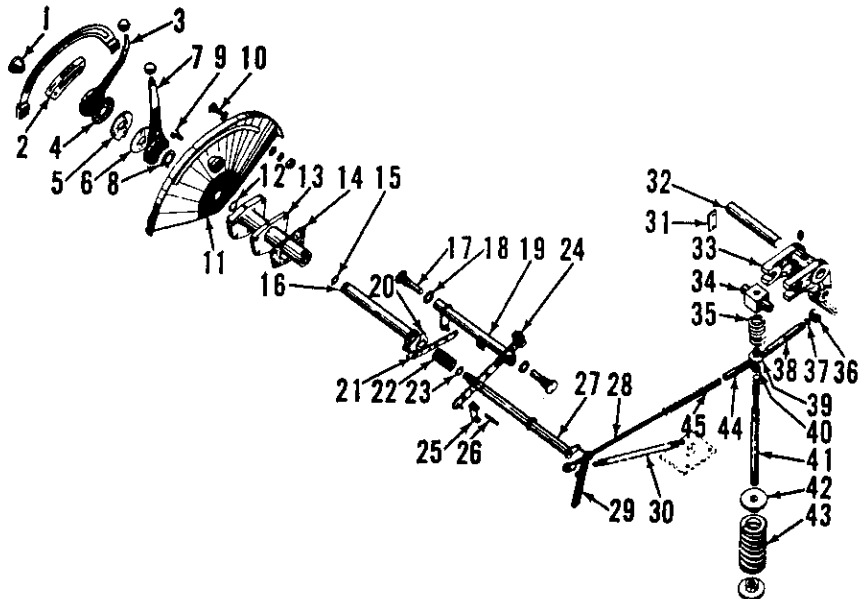

Fig. 146—Exploded view of control levers, quadrant and the draft and position control linkage.
Incorporated within the reservoir are the rockshaft assembly, work cylinder and piston, the control valve assembly, the position and draft control operating and sensing linkage and a suction filter. See Fig. 146 for a view of the position and draft control operating and sensing linkage.
Fig. 145—Typical hydraulic lift reservoir used on Series B-414, 354, 364, 384, 424, 444, 2424 and 2444. Refer to Fig. 146 for control linkage and Fig. 148 for the rockshaft assembly.
211. QUADRANT, LEVERS AND SHAFTS. The quadrant, control levers and control lever shafts can be removed and serviced as follows: Drain reservoir and remove seat. Remove housing top cover. Disconnect position control link (21—Fig. 146) from position control sleeve (16), then unbolt quadrant bracket from housing and pull quadrant and control levers and shafts from housing.
Remove lock plate (31—Fig. 146), then pull pivot pin (32) and remove bellcrank (33). Remove locknut from top of trunnion (34), then unscrew spindle (41) from trunnion. All springs and spring seats are now free. Remove the spindle oil seal from bore in bottom of housing.